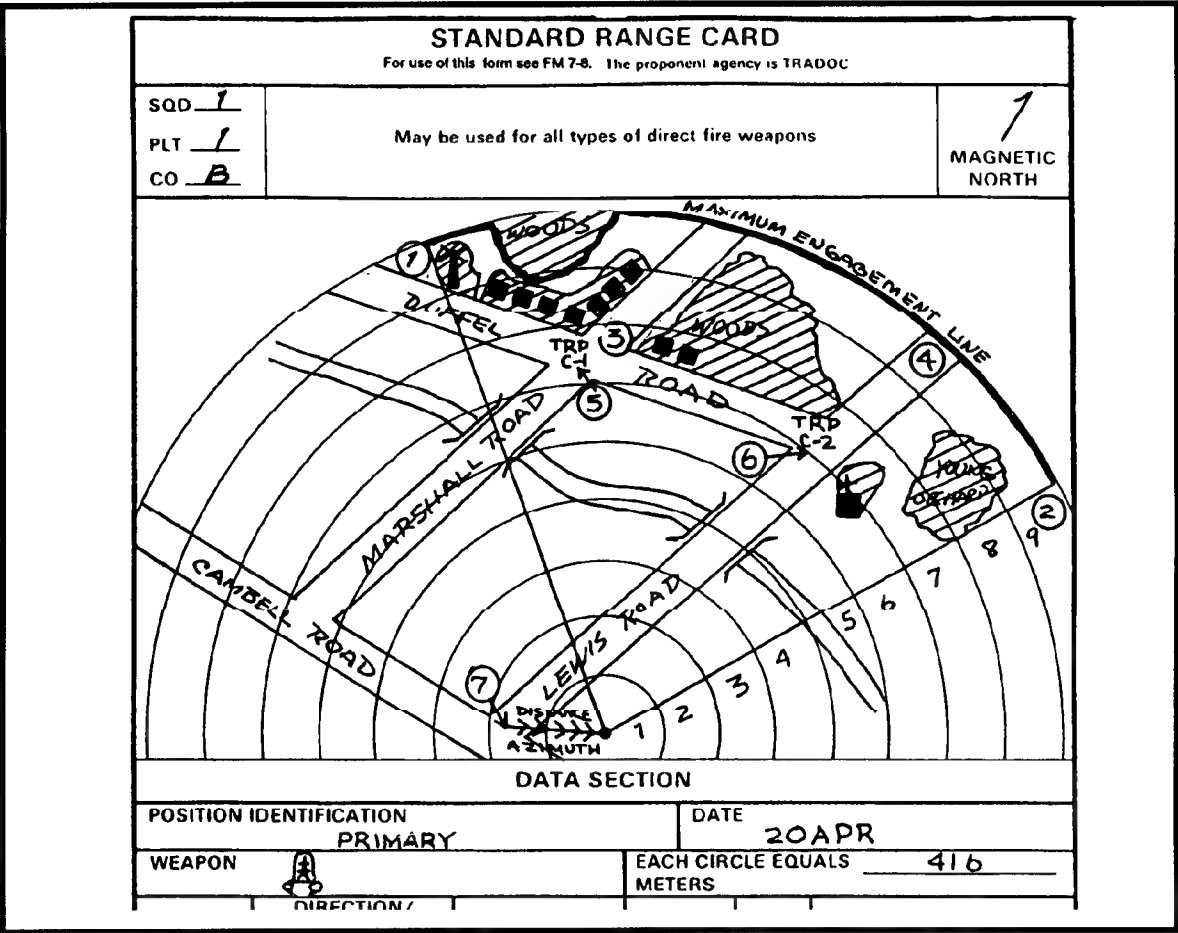

Figure E-10. Determining range interval on range card.
(4) *Each circle equals _____ meters.* Write the distance between the circles in meters. To determine the distance, count the intervals from the weapon to the maximum engagement line (as determined by the squad leader). Divide the amount of intervals into the range of the maximum engagement line. This will give the distance between circles (Figure E-10, page E-8).